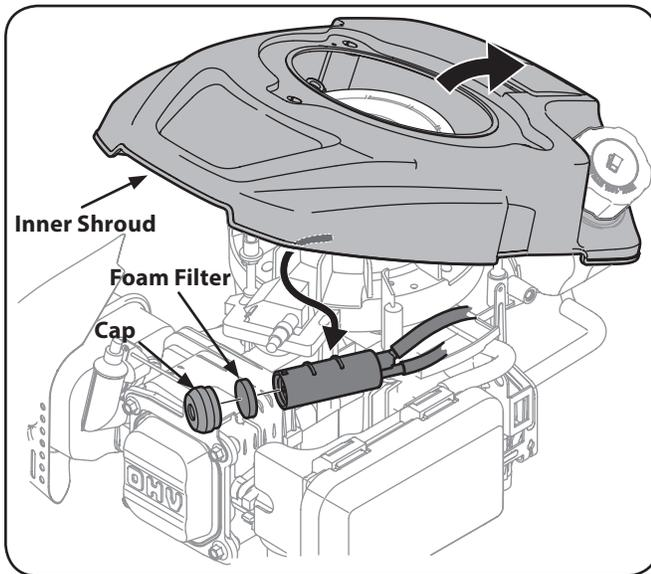

Figure 6-4
2. Lift the engine shroud and carefully pull out carbon canister filter assembly from under shroud as shown in Figure 6-4.
3. Remove cap from end of canister and pull out round foam filter from inside the assembly. See Figure 6-4. Clean element or replace when damaged.